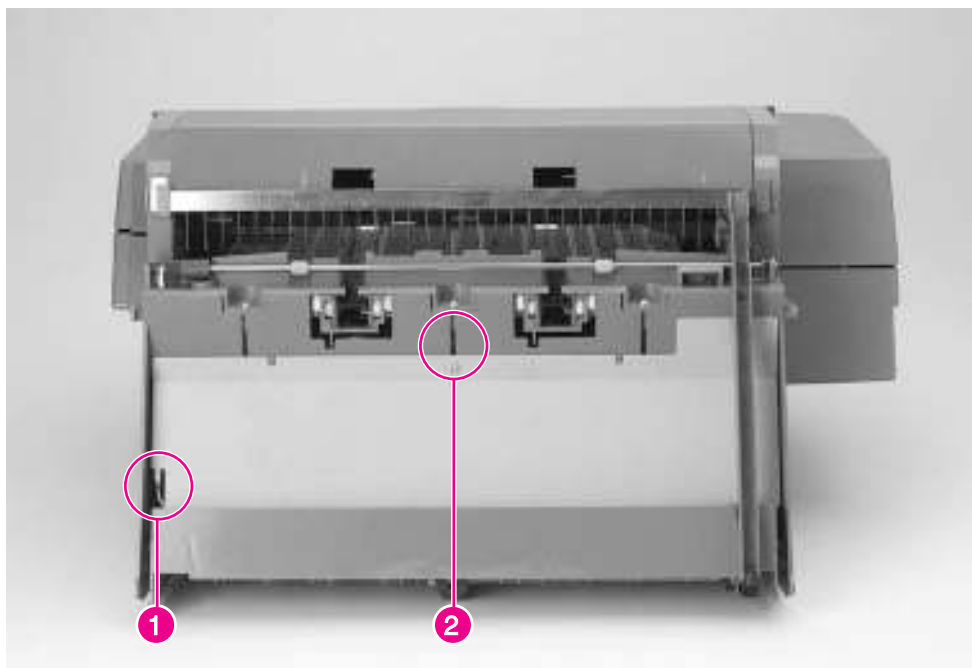

Figure 6-181 **Back Plate (2 of 2)**
- 3 Remove the Torx screw joining the Back Plate with the Stapler (see figure 6-181, callout 2).
- 4 Release the ground cable that is connected to the Back Plate (see figure 6-181, callout 1).